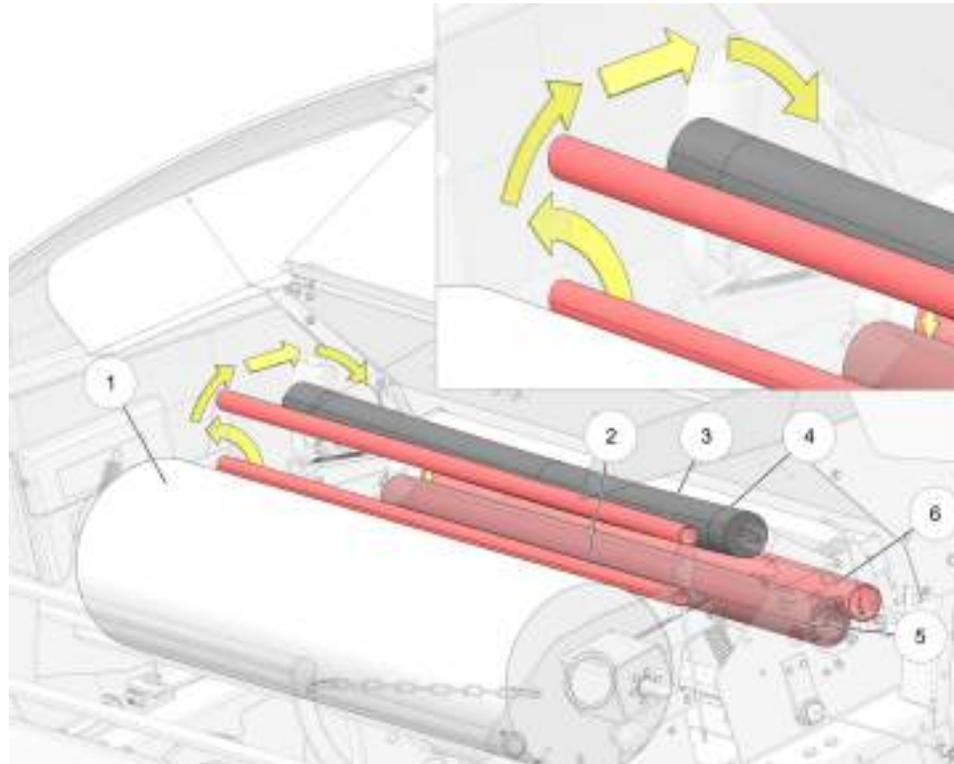

Figure 45. Feed the Net
7. Feed the net according to the picture from the net roll (1) (see Figure 45 on page 7-22) via roll 2, 3 and 4 to the rubber roll (5) and steel roll (6).
8. Turn the rubber roll (5) by hand until the rolls grasp the net.